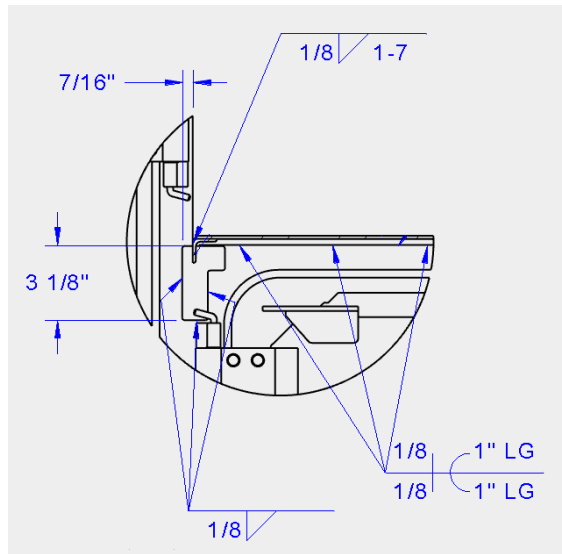

Figure 3 – Reinforcement Weld Detail
1. Inspect area for damage beyond weld or crack. Verify that the transition reinforcement is installed properly (Reference figure 3).
4. Weld up crack or the removed weld location per ASTM D-1. If replacing a broken weld, reference figure 3 for weld details. (If sheet metal is cracked or separated, align the two pieces so they are flush before welding. If needed clamps and metal working equipment will be helpful.)
6. If reinforcement is missing or incorrectly installed, install new reinforcement (P/N: 772013200) once the crack has been repaired per figure 3.